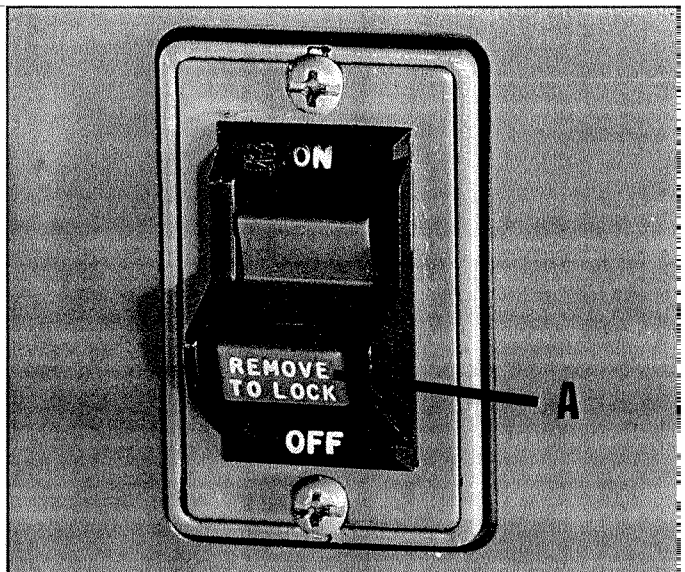

Fig. 16
The switch (A) Fig. 16, is located on the front side of the band saw. To turn the saw ON, move the switch to the "up" position. To turn the saw OFF, move the switch to the "down" position.